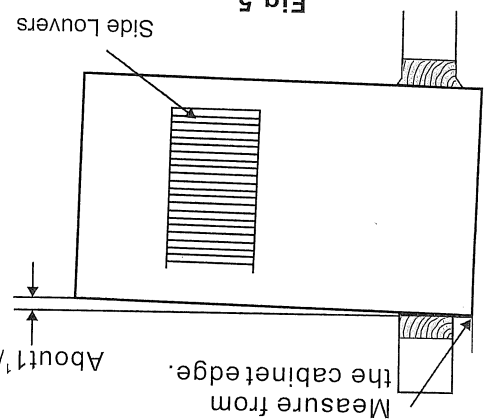

Fig. 5
3. Position cabinet to achieve proper slope for water removal. (See Fig. 5 below.)
water removal. (See Fig. 5 below.)